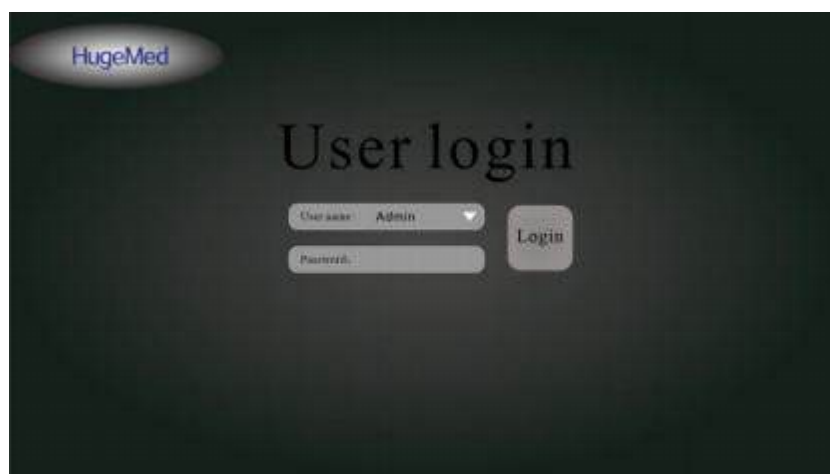

Figure 4-2 User Login Interface
(1) Press the power button  to start HUV-02. The power button will light up and automatically enter the user login interface, as shown in Figure 4-2.